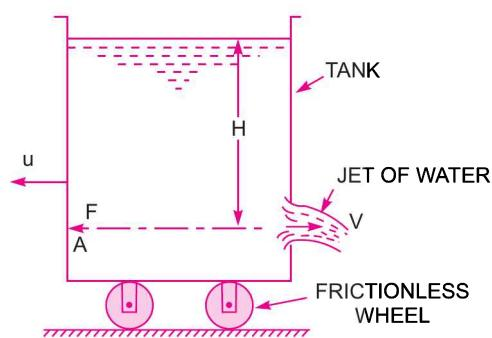

Fig. 17.25 Jet propulsion of a tank with an orifice.
17.5.1 Jet Propulsion of a Tank with an Orifice. Consider a large tank fitted with an orifice in one of its sides as shown in Fig. 17.25.
Thus, F is the force exerted on the jet of water. This jet of water will exert a force on the tank which is equal to F but opposite in direction as shown in Fig. 17.25. The force will be acting at A , the point on the tank in the horizontal line of the centre of the orifice. If the tank is free to move or the tank is fitted with frictionless wheel, it will start moving with some velocity say, ' u ' in the direction opposite to the direction of the jet. When the tank starts moving, the velocity of the jet with which it comes out of the orifice will not be equal to V but it will be equal to the relative velocity of the jet with respect to tank.